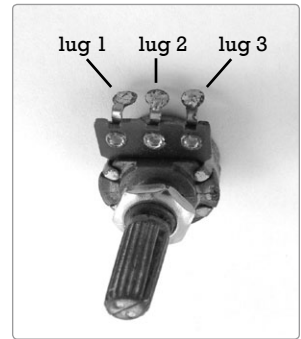

FIGURE 11-13: *A pot viewed from the front. Doesn't it look like a little metal-nosed Pinocchio wearing a crown?*
Step 14 Prepare to wire the pan pot. Look at your 100k ohm pot. I like to talk about pots as they appear when viewed from the front with their lugs up like a crown (see Figure 11-13). You'll need to add two leads to the pan pot: one will run from pan pot